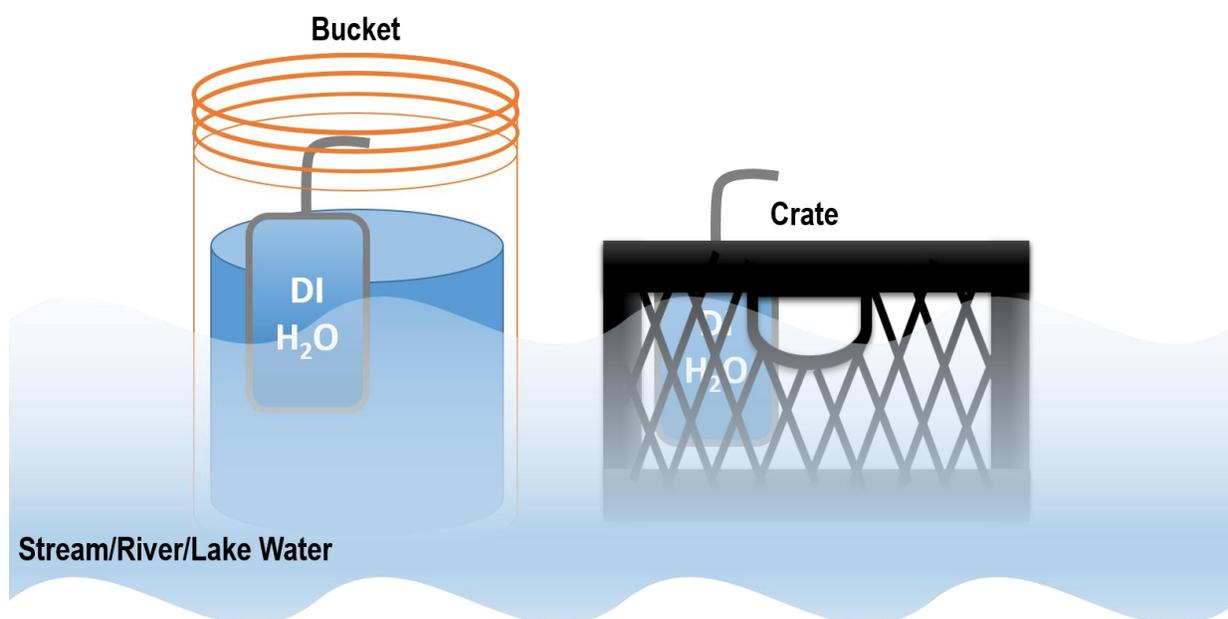

Figure 12. Alternate Setups for DI Water Temperature Equilibration.
- B. Alternatively, use a five-gallon bucket or dairy crate to equilibrate DI water to site's ambient water temperature (**Figure 12**) with the following procedure.